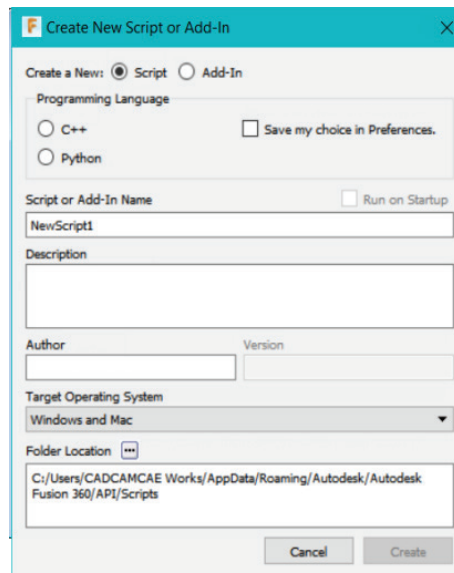

Figure-63. Creating New Script
- To create a script or Add-Ins, click on the **Create** button from **Scripts and Add-Ins** dialog box. The **Create New Script or Add-Ins** dialog box will be displayed; refer to Figure-63.
- If you want to debug a script/Add-in then select it from the **Scripts and Add-Ins** dialog box and click on the **Debug** button in **Run** drop-down; refer to Figure-63. Programming interface will be displayed based on language of selected script/Add-In.